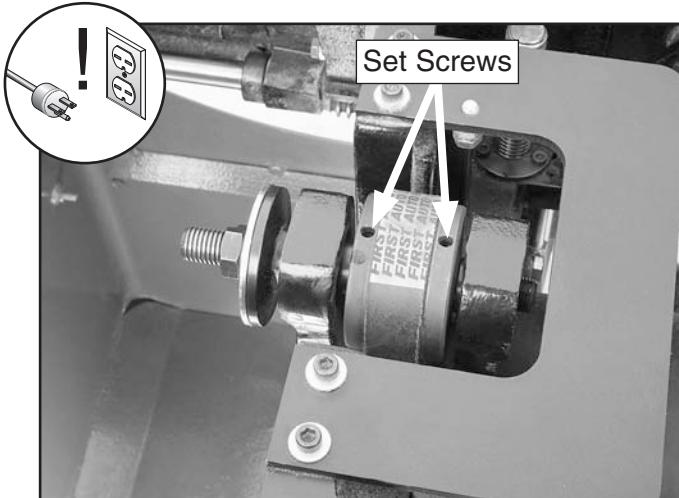

Figure 136. Location of arbor set screws.
12. Loosen the set screws shown in **Figure 136**.
- 30.** Tighten the pulley set screws shown in **Figure 136** on **Page 73**.